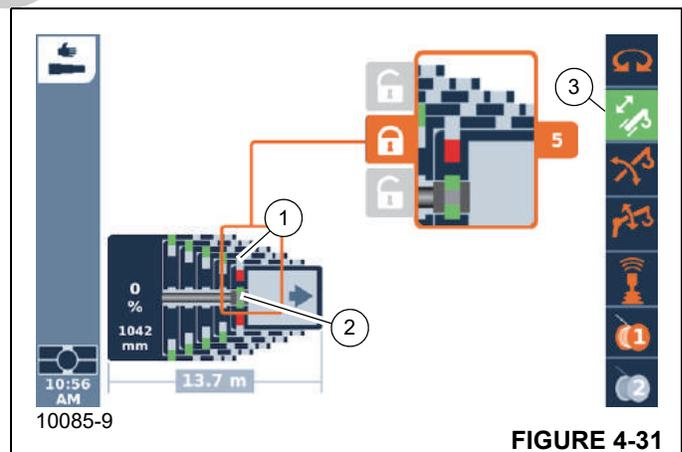

FIGURE 4-31
- Telescoping mechanism enabled – symbol (3, Figure 4-31) green
- Telescoping cylinder locked – symbol (2) green
- Telescopic section unlocked – symbol (1) red